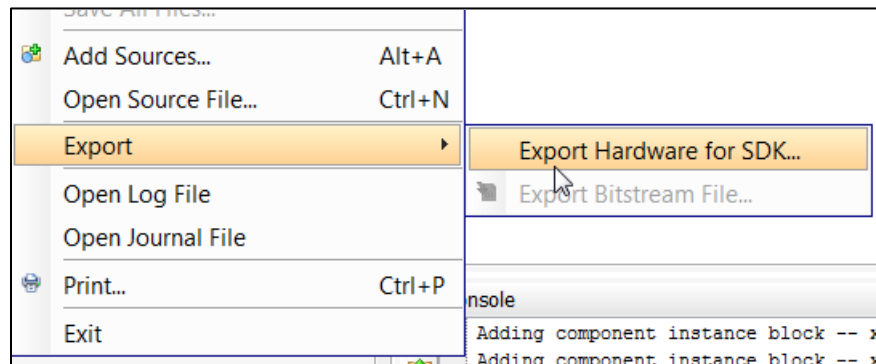

Figure 43: Export Hardware for SDK
2. From the main Vivado File menu, select Export Hardware for SDK (Figure 43).